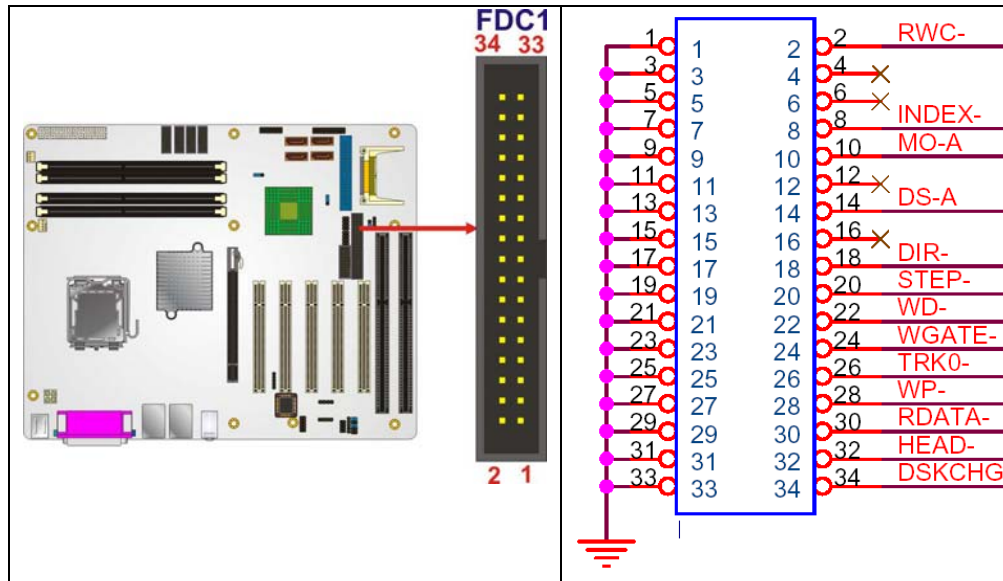

Figure 4-11: 34-pin FDD Connector Location
- CN Location:** See **Figure 4-11**